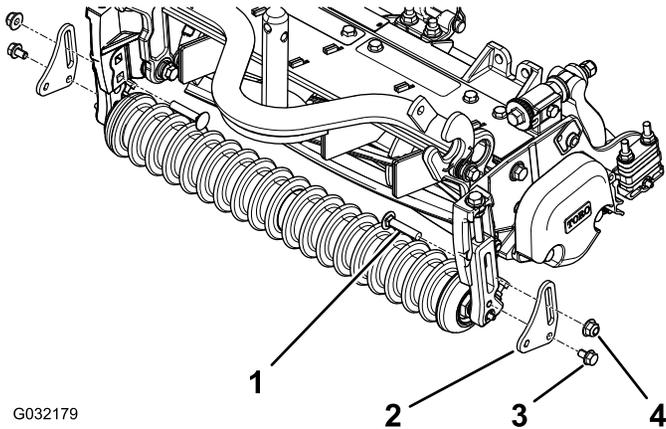

Figure 7
1. Mount a basket plate to each front height-of-cut bracket with a flange screw (5/16 x 1/2 inch), a carriage bolt (3/8 x 1-3/4 inches), and a flange nut (3/8 inch); refer to Figure 7.